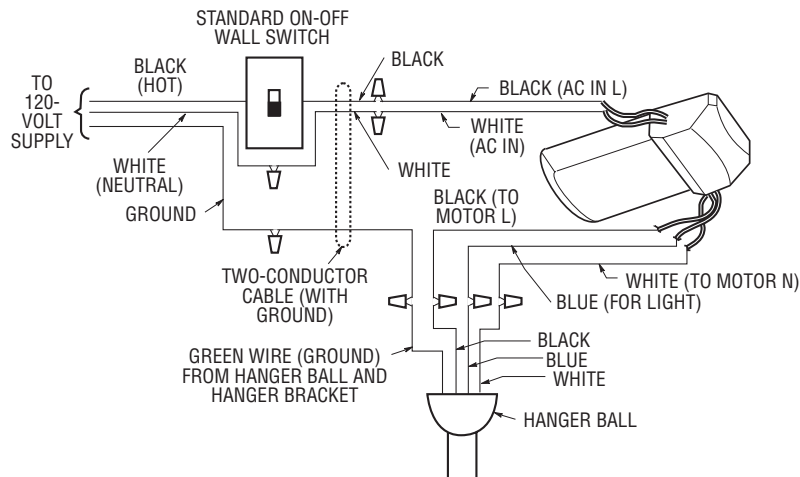

Figure 17
5. After wire connections have been made, separate the grounded white neutral and green wires on one side of the outlet box from the ungrounded black and blue wires on the other side of the outlet box (Figure 17).